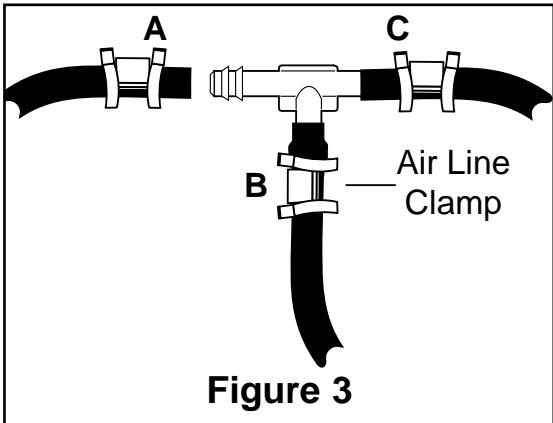

Figure 3
- D. Push the air line over one side of the tee until all the barbs are covered. Repeat procedure for other leg of tee (Figure 3).
- E. With pliers slide the air line clamp forward until it fully covers the barbed section. Repeat for the other leg of tee (Figure 3).
M. Slide air line clamp over air line. Push air line onto fitting covering all barbs. With pliers slide the air line clamp forward until it fully covers the barbed section (Figure 3).
H. Slide air line clamp over air line. Push air line onto fitting covering all barbs. With pliers slide the air line clamp forward until it fully covers the barbed section (Figure 3).